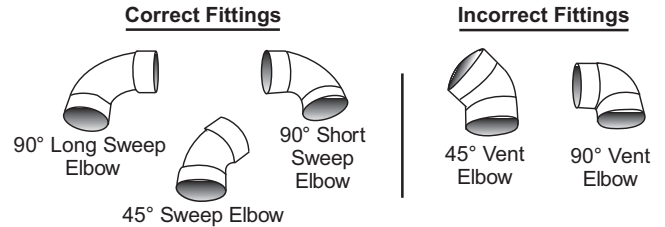

Figure 12. Correct and Incorrect Pipe Fittings
- Maximum of 6 elbows may be used per pipe. Use only short or long sweep elbows. See Figure 12 for details.
IMPORTANT: Do not use vent elbows in this vent pipe installation. See Figure 12.